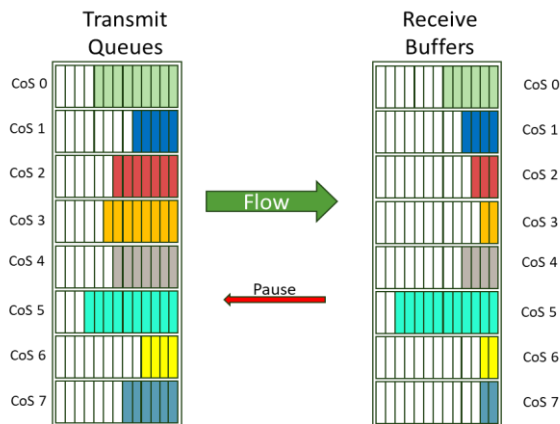
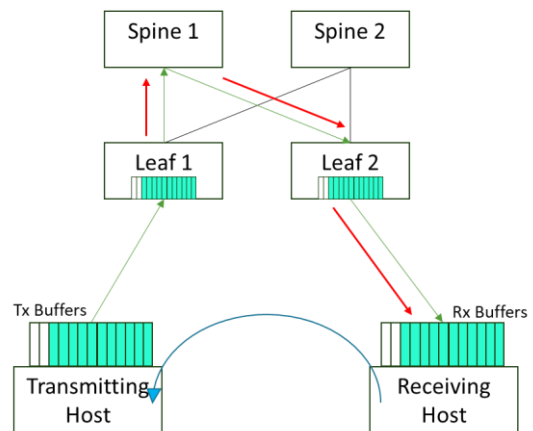

Figure 3 - Per-Priority Flow Control via Pause Frames
Figure 4 - Explicit Congestion Notification via CNP
Several core individual enablers exist to meet these goals, including Per-Priority Flow Control (PFC), as shown in Figure 3, which allows traffic to be paused by class of service. Another key aspect of managing congestion to ensure lossless behavior is depicted in Figure 4, where an Explicit Congestion Notification (ECN) is signaled by setting a Congestion Experienced (CE)